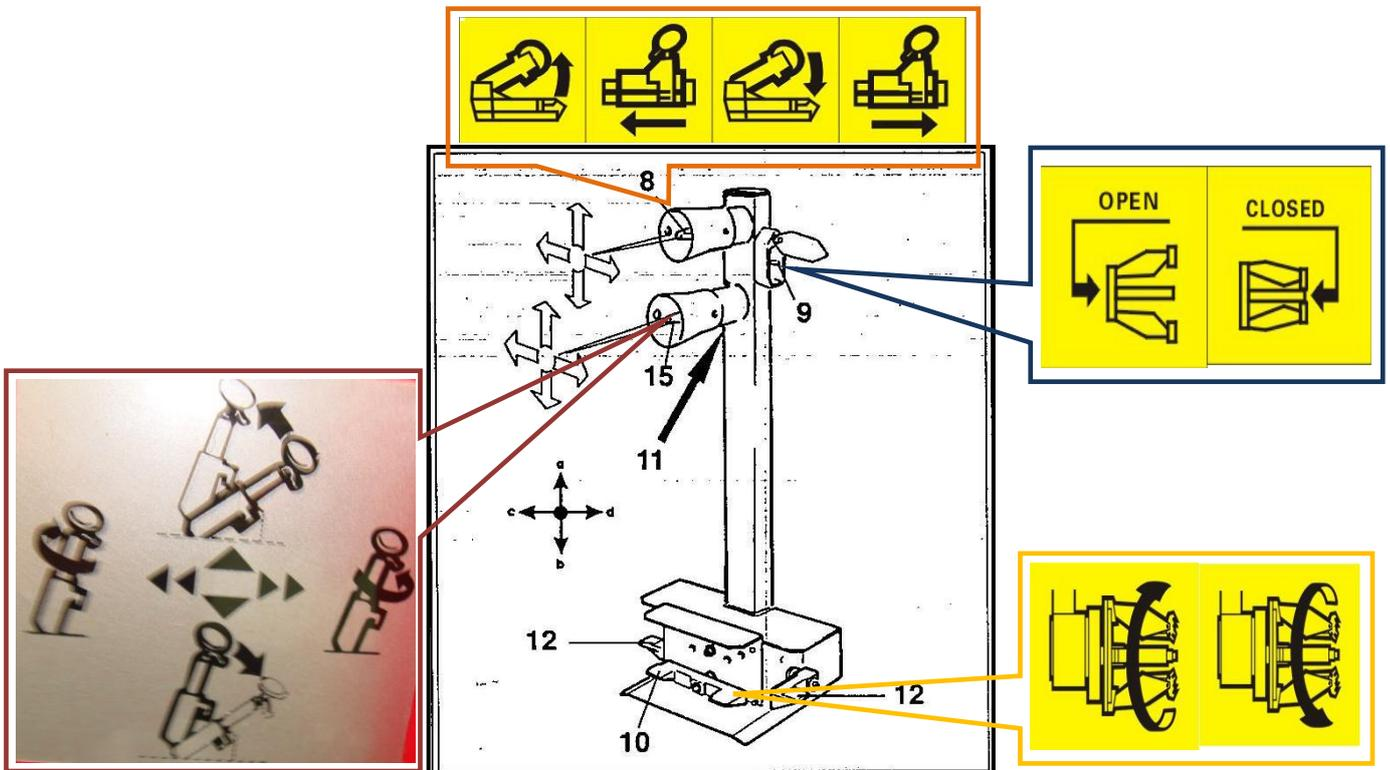
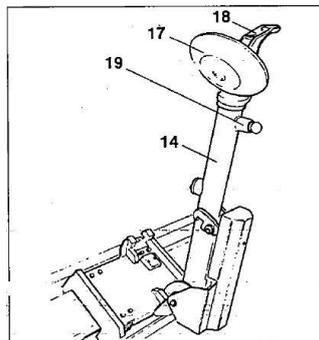
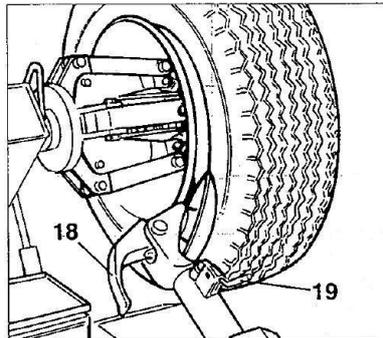

Fig.6.2
Fig.6.3
Fig.7.4
The mobile control centre (Fig.6.2) enables the operator to work at any position around the machine. On this mobile control centre the following control are located:
1. **The top joystick (8, Fig.6.2)** which in **position a** lifts the chuck arm and in **position b** lowers it; in **position c** moves the chuck rightwards and the tool holder arm leftwards simultaneously (so they get nearer each other) and in **position d** moves the chuck leftwards and the tool holder arm rightwards (so they get farther each to the other).
2. **bottom joystick (15, Fig.6.2)** when pulled **upwards a**, the bottom joystick brings the tool holding arm in "non working" position, when pulled **downwards b**, it brings the arm in "working" position when putted **leftwards c**, it turns the head tool through 180° counterclockwise; when putted **rightwards d**, it turns the head tool to the opposite direction and brings the tool back to starting position.
3. **The chuck switch (9, Fig.6.2)** when moved upwards, opens the arms of the self-centering chuck (LOCKING), and when moved down, closes the arm of the self-centering chuck (UN-LOCKING).
4. **The pedal (10, Fig.6.2)** when pressed on the left or right side rotates the self-centering chuck in the same direction as shown by the arrows placed on the foot pedal.
5. **The second speed switch (11, Fig.6.2)** when pressed together with the pedal (10, Fig.6.2), rotates the self centering chuck at high speed.
6. **The second speed pedals (12, Fig.6.2)** move the self-centering chuck and the tool holding arm and close and open the carriage at high speed.
On the Worker tyre changer there is also a knob (19, Fig.6.3) which allows to replace tools (for instance for mounting accessory RT Tubeless roller).
- 1) Move the bottom joystick (15, Fig.6.2) upwards (a) the tool arm (14, Fig.6.3) must be tilt in "non-working" position.
- 2) Tool holding arm being in "non-working" portion move the top joystick (8, Fig.6.2) up (a): the spindle carrier arm (2, Fig.3.1) should lift; move the joystick down (b): the arm should, lower.
move the joystick leftwards (c): the spindle-holding arm (2, Fig.3.1) must move rightwards and the tool-holding arm (14, Fig.6.3) leftwards; moving at the same time, the two arms must get closer,
Repeat these operations ("c" and "d") simultaneously pressing one of the two pedals (12, Fig.6.2): the above indicated movements must occur at high speed.
- 3) Turn switch lever (9, Fig.6.2) towards the top: the spindle arms (3, Fig.3.1) should open; move the lever down and the spindle arms should close.
Repeat these operations simultaneously pressing one of the two pedals (12, Fig.6.2): the above indicated movement must occur at high speed.
- 4) Depress the right pedal (10, Fig.6.2): the spindle (3, Fig.3.1) should turn clockwise, depress the left pedal: the spindle should turn anticlockwise.
Pull the switch lever (11, Fig.6.2) down and repeat the above indicated operations: the spindle must move at high speed.
- move switch lever (9, Fig.6.2) towards the top until the spindle arms are fully extended.
5. With the jaws (22, Fig.3.1) in the closed position, move the wheel on the sliding table to the self-centering chuck. Operate the chuck switch (9, Fig.6.2) to open the self-centering chuck and lock onto the inside wheel rim.
- 7) By using the bottom joystick (15, Fig.6.2) tilt the arm to 'non working" position; move and lock it in the inner position (Fig.7.4).
N.B.: During the bead breaking, the claw (18, Fig.7.4) can be towered so that it is out of the way.